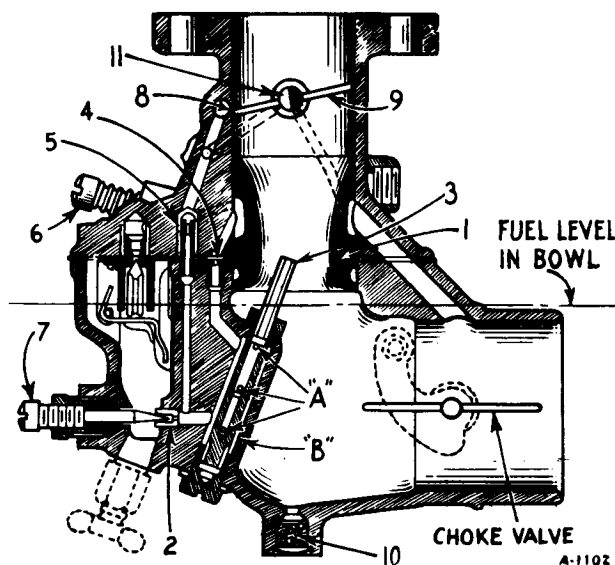

Fig. 1 - Cross Section of Carburetor.
7. When the throttle stop screw (13, Fig. 1) on the carburetor is adjusted for correct low idle speed, the upper stop screw (10, Fig. 12) on the governor spring lever (14) should be adjusted to just touch its stop. At this setting, the governor spring (2) should be free. It will not be possible to set the low idle speed of the engine when the screw (10) is adjusted so there is a tension in the spring (12).
8. The linkage between the hand lever and the governor speed change lever (3) should be adjusted so that both stop screws (10 and 11) will touch their stops at the extreme movement of the hand lever.
Further movement of throttle valve plate, due to increased load, requires less fuel from the idle system to maintain an economical fuel ratio. This is accomplished on most of the carburetors by an economizer slot in the throttle shaft (11, Fig. 1) opening up an air passage from the carburetor air intake to the vacuum passage below the idle discharge port. The additional quantity of air thus added to the idle system reduces the delivery of fuel from the idle metering jet (5). With the throttle shaft and plate in the idling position as shown in Fig. 1, the economizer air passage is closed.
**LOAD SYSTEM:** The load system controls the air-fuel mixture from the partially opened throttle position to the full throttle, full load range of the carburetion. It consists of the venturi (1, Fig. 1), main discharge jet (3), main air bleed (4), metering well (B), main metering needle valve seat (2), and main metering needle valve (7).
As the throttle valve plate is opened past the idle position, an increasing amount of air is drawn through the venturi. The velocity of the air is speeded up at the point of smallest diameter in the venturi where the outlet of the main discharge jet is located. The effect of the venturi is to create a partial vacuum at the discharge jet, causing fuel to be discharged. The float chamber and metering well (B, Fig. 1), being vented, places normal pressure on the fuel, causing it to flow through the main metering needle valve seat (2) into the metering well (B) and out through the main discharge jet where it is delivered into the air stream.
ing well (B, Fig. 1) will be reloaded with fuel more rapidly for acceleration purposes to care for rapid fluctuation of engine load.
An opening is provided in the bottom of the main air intake to drain off any excess fuel which may return from the manifold. This opening is protected against the entry of dust by a drip hole filler (10, Fig. 1).